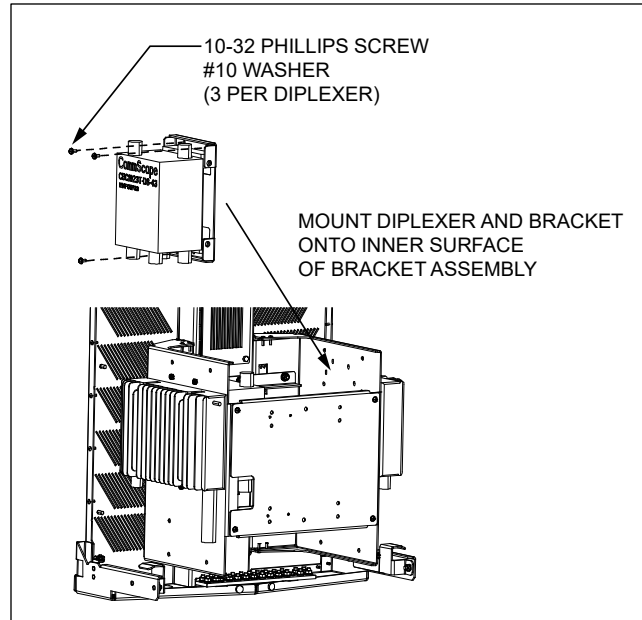

Figure 7 Mount Diplexer to Bracket Assembly
2. Mount the diplexer bracket to the inner right and left surfaces of the bracket assembly (Figure 7).